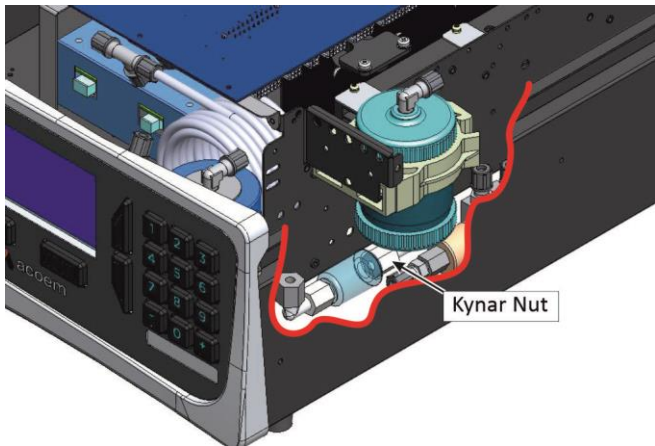

Figure 141 – Pull-out the DFU
4. Refer to Figure 141. Remove the Kynar nut and pull-out the DFU from the fitting below the scrubber.